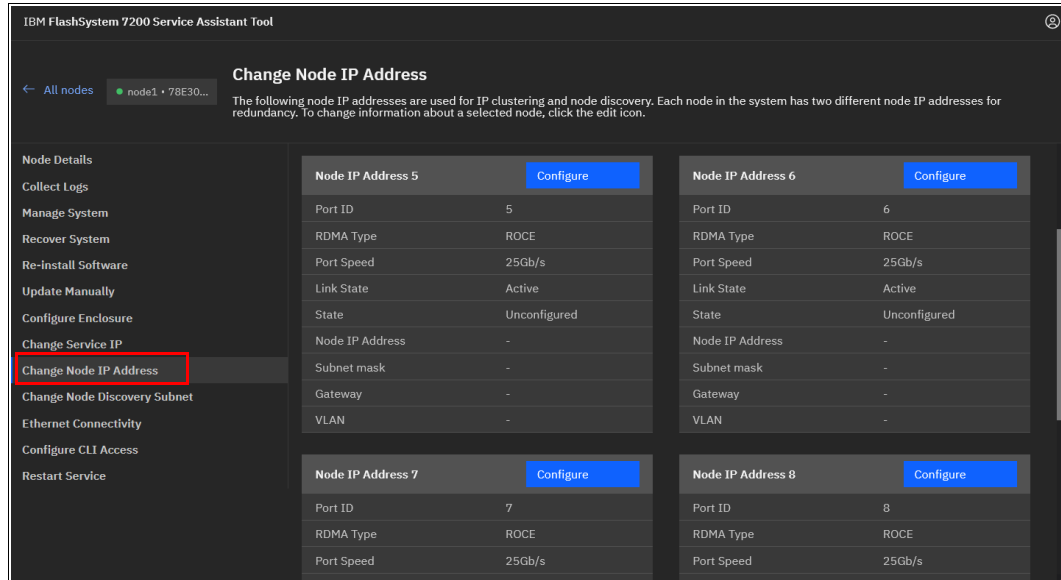

Figure 2-45 Node IP address setup for Remote Direct Memory Access clustering
1. Connect to a Service Assistant of a node by browsing to `https://<node_service_IP>/service`. Then, select a node and click **Change Node IP** (see Figure 2-45).